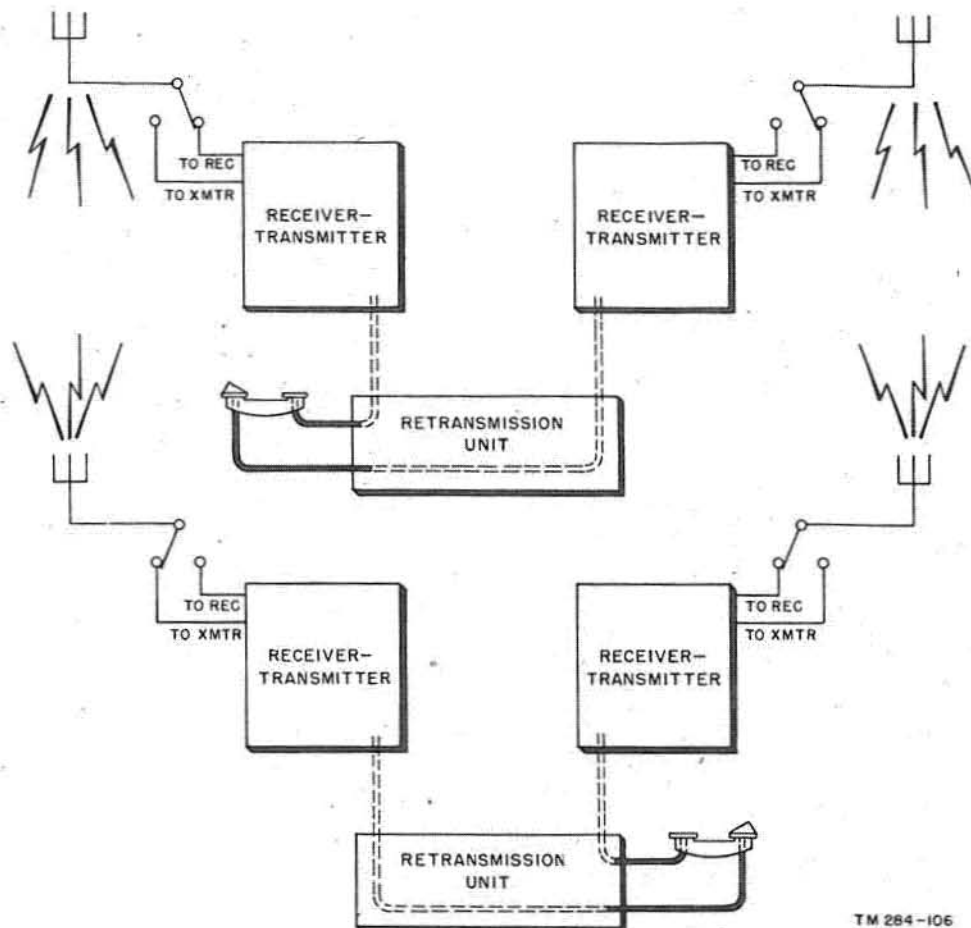

Figure 32. Duplex operation, block diagram.
a. Duplex radio operation utilizes separate transmitting and receiving circuits to provide simultaneous communication in two directions. In the block diagram shown on figure 32, one receiver-transmitter is utilized for receiving while the other receiver-transmitter is used for transmitting. Both stations involved in the duplex network must have these separate facilities in order to make this simultaneous two-way or *break-in* operation possible.